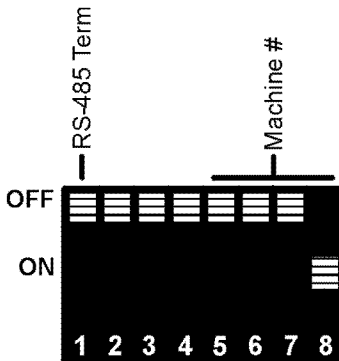

Figure 22: DIP-switch Setting for Machine 2
5. Set the Machine number on all **VP-88K** units other than Machine 2 to a unique number between 3 and 16 (see Section 6.5)¹. Figure 22 shows the DIP-switch setting for Machine 2.